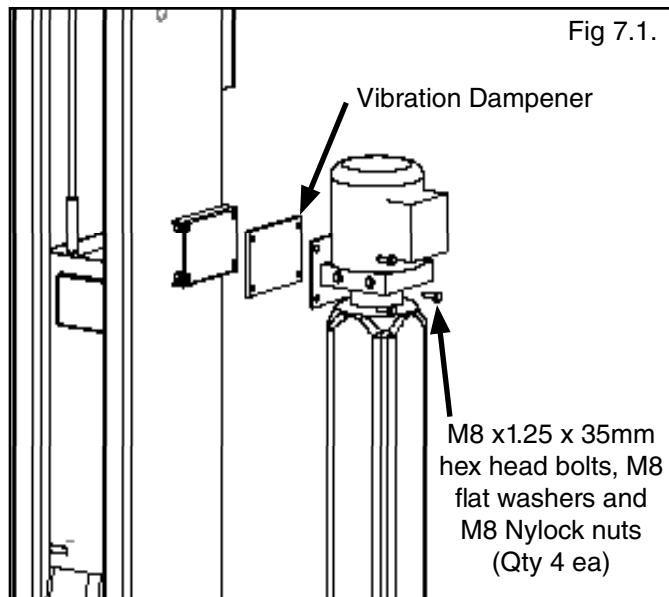

Fig 7.1.
1. Attach the power unit to the POWER SIDE post. Install the vibration dampener between the power unit and the power unit mounting plate on the Power Side post, using four M8 hex head bolts and nuts supplied. (See Fig 7.1)